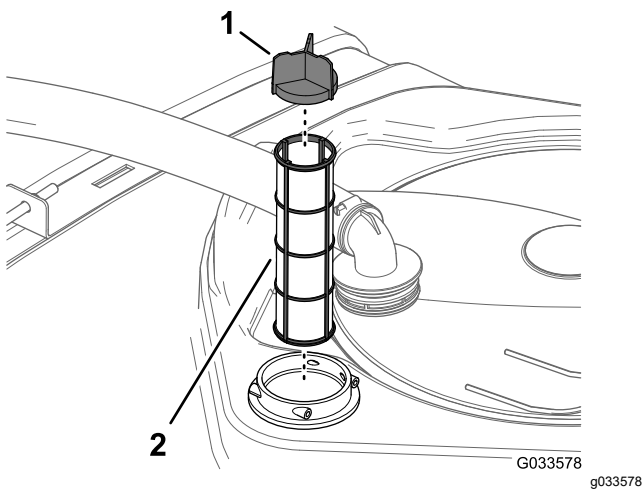

Figure 88
- Pull the suction strainer out of the filter housing in the tank (Figure 88).